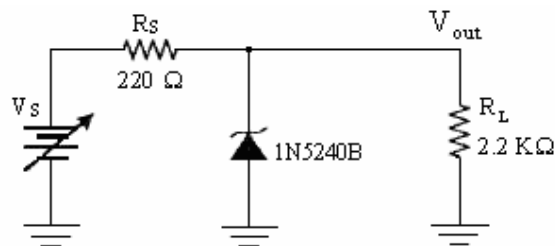

Fig.4: Line Regulation
3. As we know a common application of zener diodes is in regulators. In this step, you will investigate a zener regulator as the source voltage is varied. Connect the circuit shown in Figure 4.
Compute the line regulation expressed as a percentage for the circuit in Figure 4 using the data for the last two rows of Table 2, (Note that V_{in} in the equation is equivalent to V_s in the table).